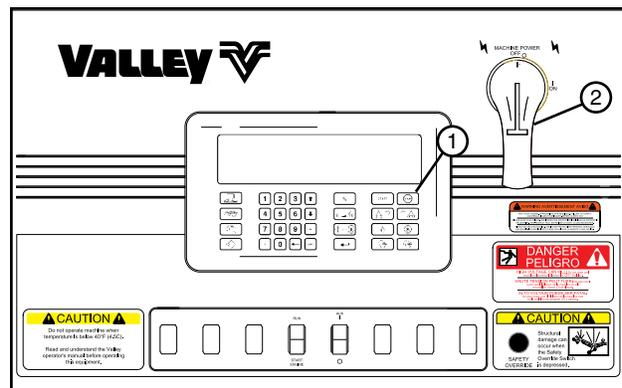

Figure 34-2 AutoPilot Control Panel Shown
1. Press the STOP key. See Figure 34-2.
2. Turn the main disconnect switch to the OFF position. See Figure 34-2.